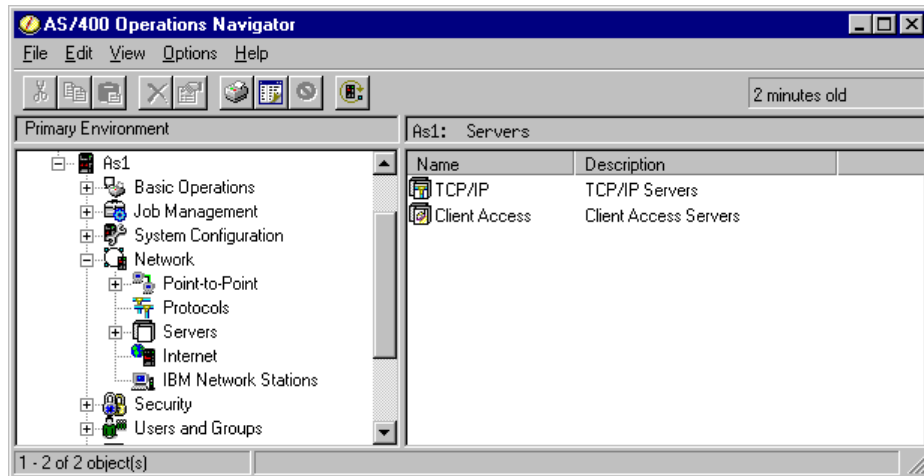

Figure 68. AS/400 Operations Navigator - Selecting Network Servers
4. Double-click **Servers**. The display Figure 68 is shown.